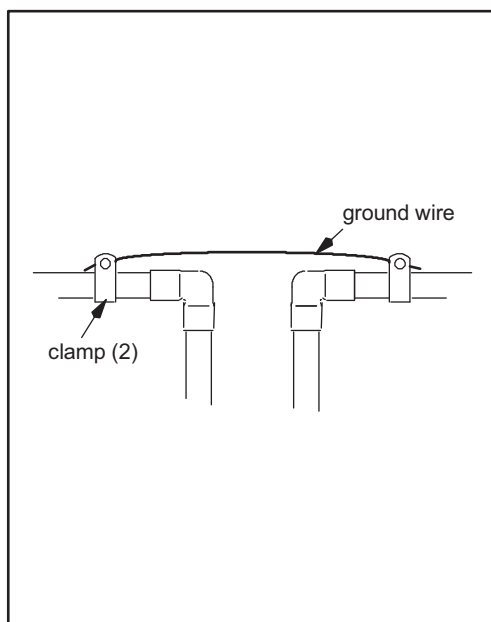

FIG. 6
NOTE: If installing a ground as shown in Figure 6, place ground clamps on copper tubes before soldering (See Step 7a).
- Install a #4 copper wire across the removed section of main water pipe, securely clamping at both ends (See Figure 6). Parts not included.